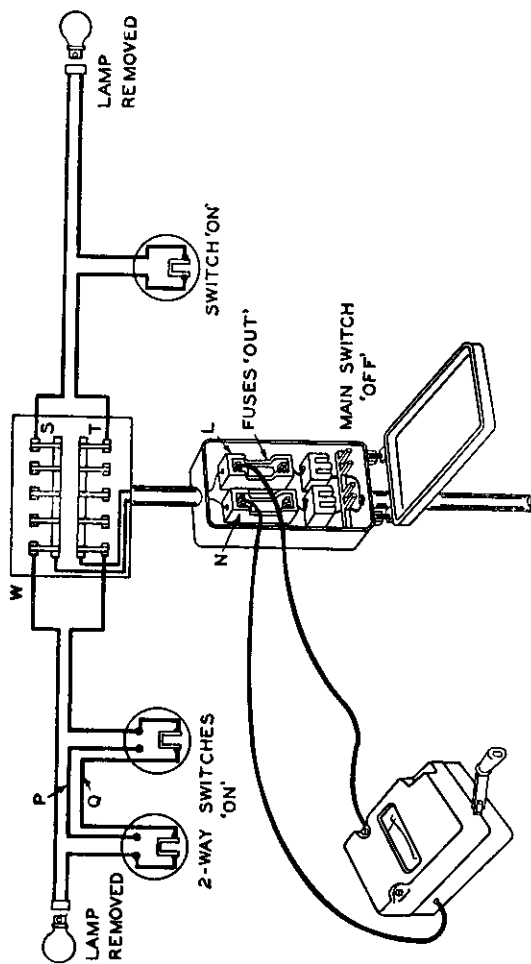

Figure 15
In circuits having 2-way corridor switches, two test readings should be taken, one switch in each pair being changed over before taking the second test, thus ensuring that both inter-switch wires (P and Q, Figure 15) are included in the test.
Connect one terminal of the Megger Insulation Tester to fuse contact L (Figure 15), and the other to the contact N and make a test.
Two readings should be taken on an installation containing 2-way switches, one with both switches in one "ON" position (Figure 15) and the other with both switches in the alternative "ON" position; this will ensure that both inter-switch wires (P and Q, Figure 15) are included in the test.
*To test whether 2-way switches are in the "ON" position, insert the lamp they control. A Megger Insulation Tester connected between contacts L and N Figure 15 will show zero if the switches are in the "ON" position.